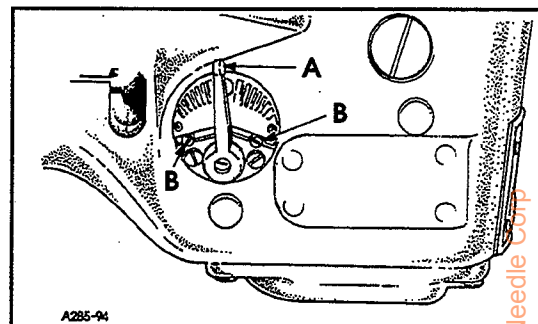

FIG. 19
The amount of differential is controlled by lever (A, Fig. 19). The adjusting plate is numbered from 1 to 9. When the lever is set from numbers 1 to 4 reverse differential or stretching occurs. The numbers from 4 to 5 produce equal feed stitching while numbers 5 to 9 produce a gathering stitch. Screws (B) can be set to limit the movement of lever (A) or lock lever in one position. If top ply of material is coming out long, move lever toward operator, if top ply is short, move lever away from operator, as required.